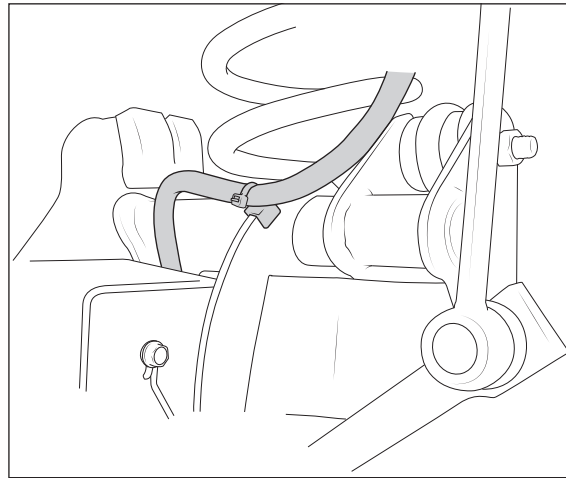

Figure 19
12. Reattach the axle vent to new track bar tower (fig. 19).